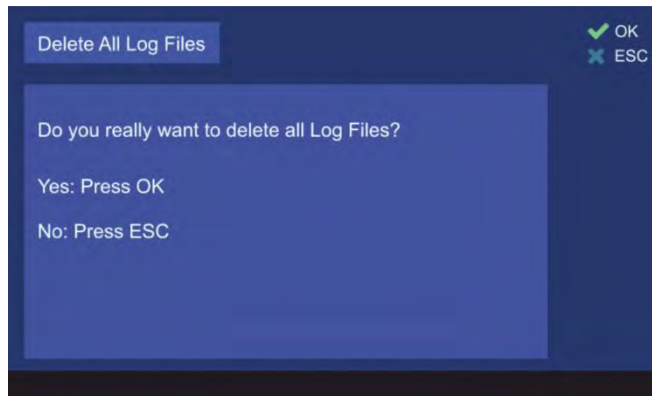

Figure 136. Confirming of deleting of all log files
- Pressing the hotkey “Delete All” will open the prompt dialog for deleting of all log files (s. Figure 136). Pressing “OK” will delete all log files. Pressing “ESC” will close the dialog without deleting the log files.